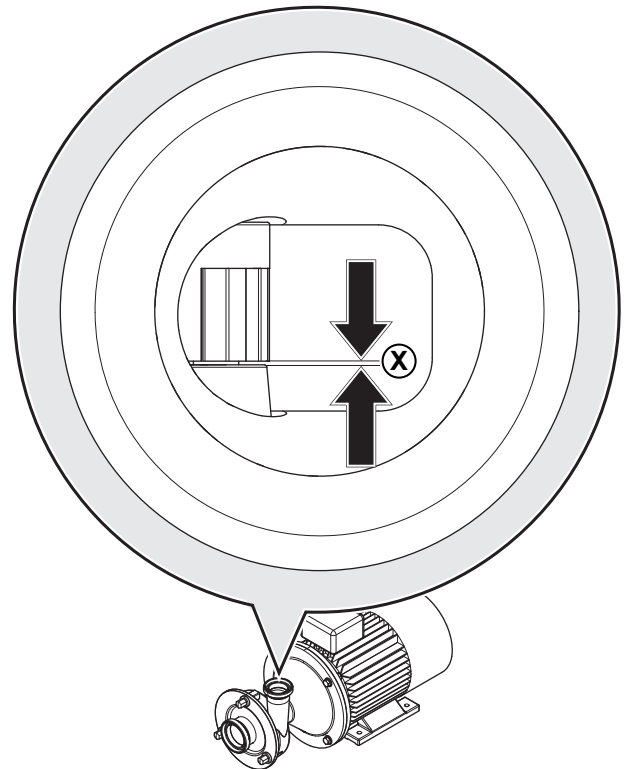

Fig. 28 Measurement of impeller–pump cover clearance
2. Measure the clearance inside the pipe connection (discharge line). See Fig. 28 "Measurement of impeller–pump cover clearance".